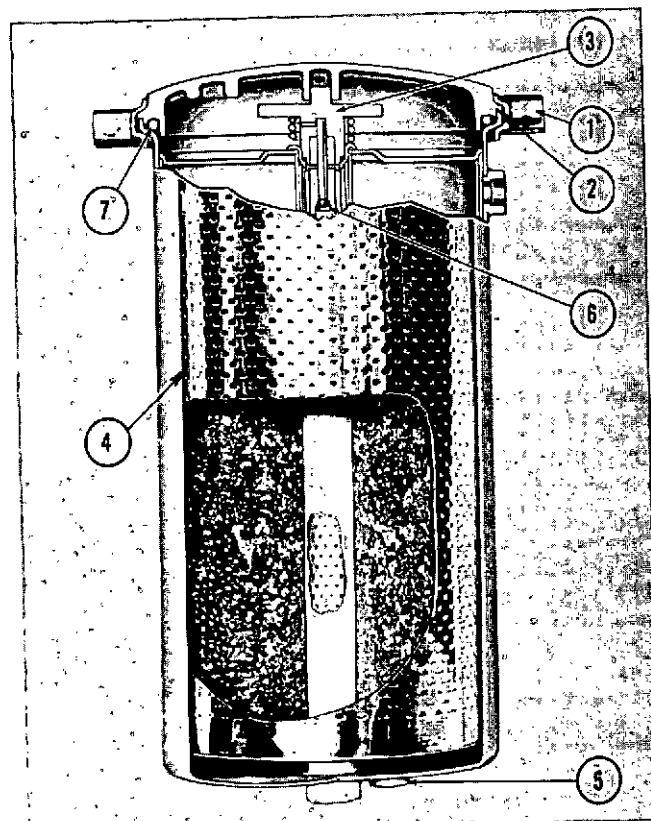

Fig. 5-15. By-pass filter cross-section
1. Remove drain plug (5, Fig. 5-15) from bottom of housing and drain oil.
2. Remove clamping ring capscrew (1) and lift off cover (2).
3. Unscrew upper support hold-down assembly (3); lift out element (4) and hold-down assembly. Discard element.
4. Clean housing and hold-down assembly in solvent; clean orifice (6) in standpipe.
7. On the Cummins Fleetguard by-pass filter, check orifice plug (6) inside oil outlet connection or standpipe; blow out with air jet to make sure orifice is open and clean.
8. Check filter cover "O" ring (7). Replace if damaged or deteriorated.